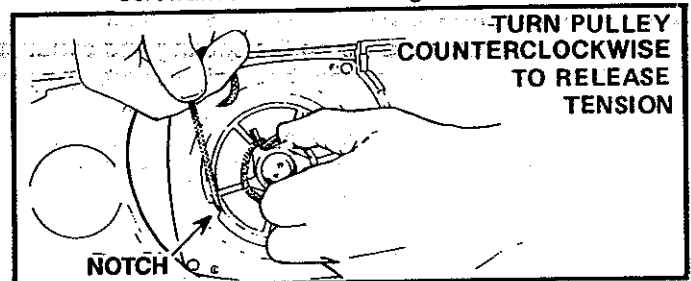

Figure 42
- If the starter rope is not broken, release the spring tension by pulling about 12 inches of rope from the pulley and catch the rope in the notch as shown. Figure 42.